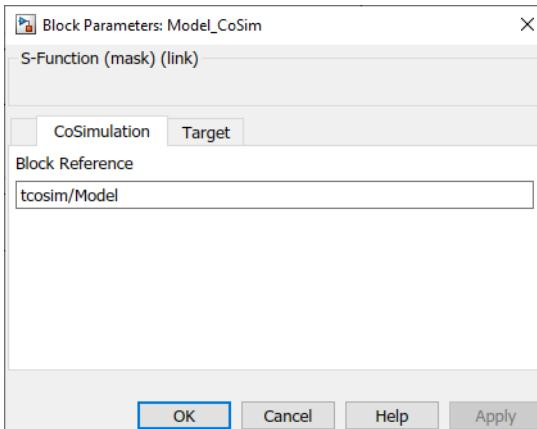

Figure 14-5 Example: changing the path to the referenced model
- Enter the new path in the “Block Reference” input field (see Figure 14-5).